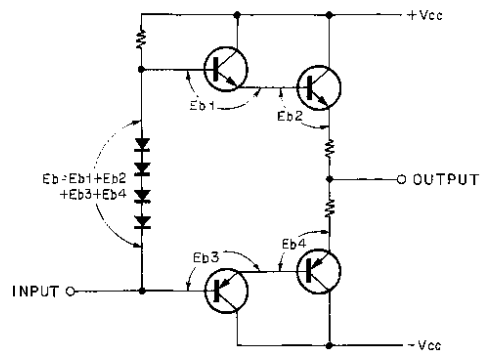
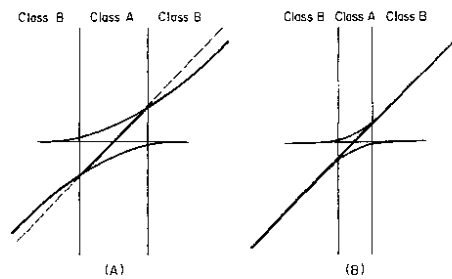
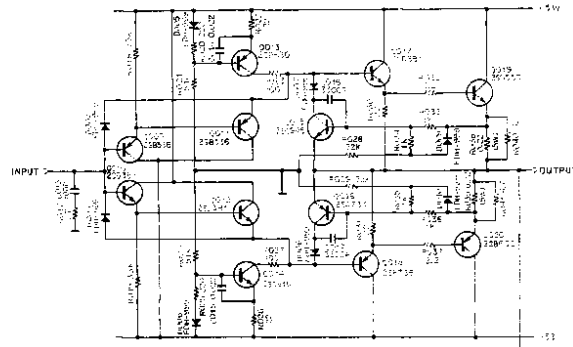
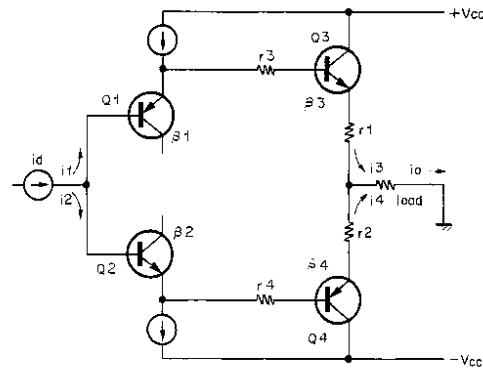

Fig. 2.4
Fig. 2.5
Fig. 2.3
Fig. 2.6
Especially for a class B push-pull amplifier, distortion cannot be reduced unless the positive and negative signal amplifiers are well balanced. The amplifier in the 620, however, is best balanced thanks to the vertically and horizontally symmetric configuration as shown in Fig. 2.3. This circuit allows distortion of only 0.1% at 1KHz 100 watts output even without NFB. This degree of distortion is low enough to make the amplifier used as a high-fidelity unit even if it is given no NFB.
Fig. 2.4 shows that a change in current flowing across the diode varies the terminal voltage and that E_B changes with signal current. These changes result in the generation of distortion. It is a matter of course that signal current flowing across the diode will produce distortion. See Fig. 2.3. Transistors Q009, Q011, Q010 and Q012 that generate bias voltage form an emitter-follower circuit of class A operation. Thus this circuit does not induce distorted signals.
For an ordinary class B amplifier, crossover distortion is reduced by increasing idling current thus overlapping the operating ranges of the positive and negative transistors. The overlap portion acts as a class A amplifier. Generally, the degree of amplification decreases where a change takes place from class A to B and no linear curve is obtained as shown in Fig. 2.5 (A). However, if the circuit shown in Fig. 2.3 is current-driven, a linear curve can be obtained at the point of change from class A to B as shown in Fig. 2.5 (B).
Fig. 2.6 illustrates a simplified version of the circuit shown in Fig. 2.3.
Since the direct-coupled two-stage emitter-followers can be regarded to be one emitter-follower having greater current amplification, the Q009-Q011, Q010-Q012, Q017-Q019, and Q018-Q020 will be designated respectively to be Q1, Q2, Q3 and Q4 as shown in Fig. 2.6.